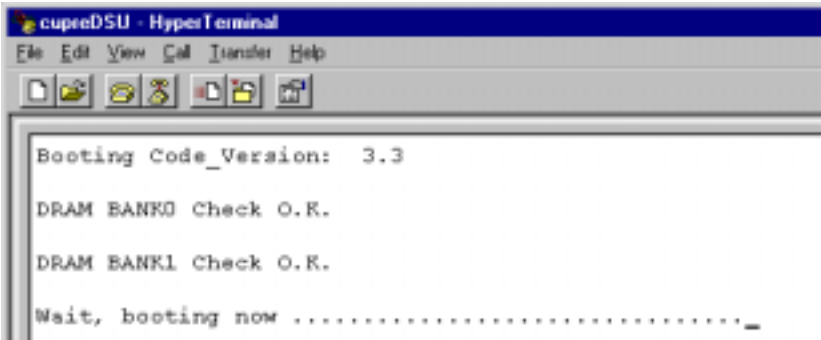

Figure 2-5. Terminal Screen During CupréDSU Reboot
3. If the CupréDSU is not powered up, attach the power cord (see Step 6 in Chapter 1). This will cause the system to display the window of *Figure 2-5* as it boots.